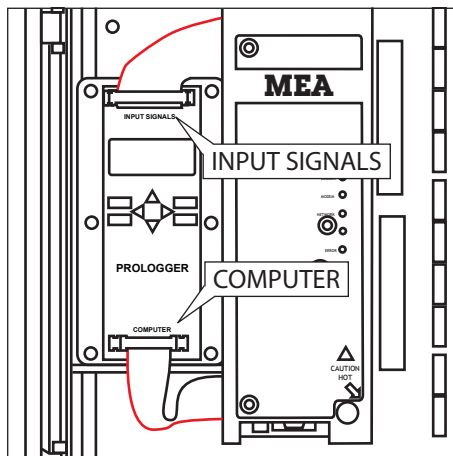

Fig. 27. Install the data logger.
1. The data logger is shipped in its own cardboard box. Remove the logger from its box and place it on the logger shelf in the logger enclosure per Fig. 27.